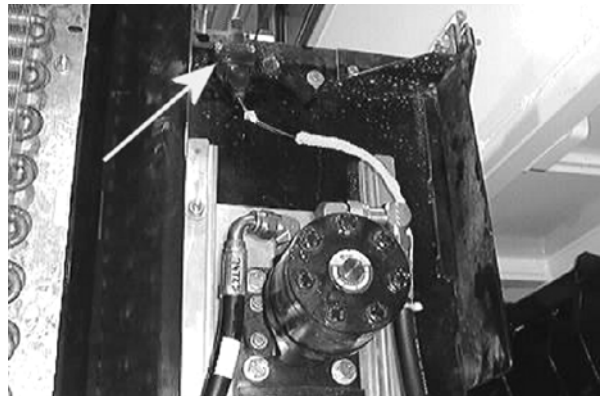

FIG. 4
5. **Machines equipped with the vacuum wand option only:** Disconnect the wires from the vacuum wand door switch located on the left side of the conveyor. Refer to Fig. 4.